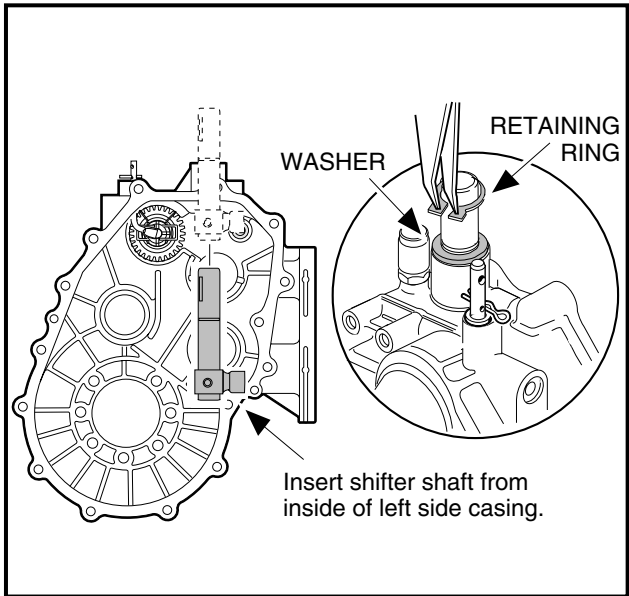

Figure 19-48 Insert Shifter Shaft
6. Install the shifter shaft into the left (driver side) case (**Figure 19-48, Page 19-24**). Install the washer and use external snap ring pliers (0.070 tip) to install retaining ring on the shifter shaft outside of the case. Make sure the retaining ring is in the groove of the shaft.